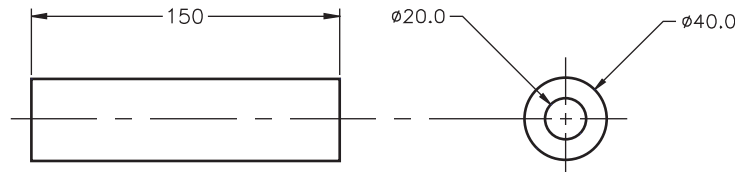

Fig. 12-8
4. Draw the two views of the rubberized hand grip used for closing the safety bar on a roller coaster car (Fig. 12-8).